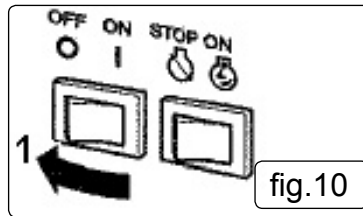

fig.10
- 4.10.1. Turn the ECS switch to "OFF" fig.10.